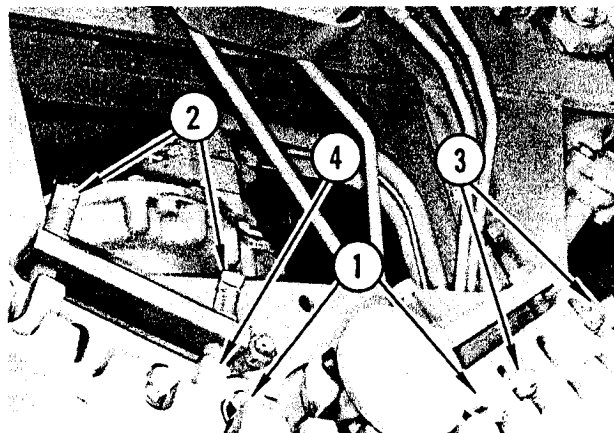

FIGURE 23. CIRCLE PUSHER REMOVAL
Refer to Figure 23. Remove stud nuts and flat washers from the two studs (1). Back off circle pusher adjusting screws (2) at all four suspension points. Remove hex nuts and flat washers from capscrews (3) retaining